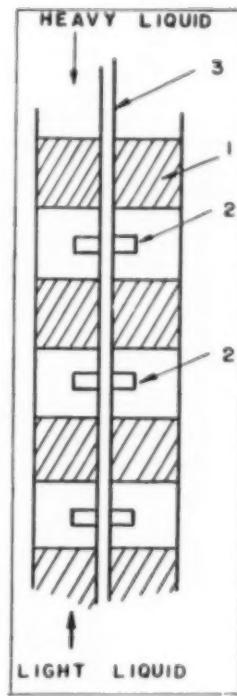

Fig. 8.
The vertical mixer-settler in Figure 8 has a common shaft for its agitators, and the over-all flow is by gravity (10). Mixing sections are alternated with settling sections packed with Raschig rings or other packing material, in which the liquids undergo countercurrent flow. A column of this type can be run with either phase continuous, and therefore the ratio of phases in the mixing zone can be altered. Stage efficiencies of over 100% due to material transfer in the packing in addition to that in the mixing section have been observed; as shown experimentally, a packed section larger than the mixing section leads to better stage efficiencies.